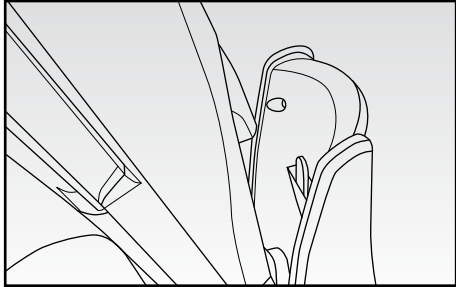

Fig. 5
- Position the assembled appliance on the recharging base (G), making sure it properly locks on the hook on the upper side (H) of the recharging base (G) (Fig. 5).